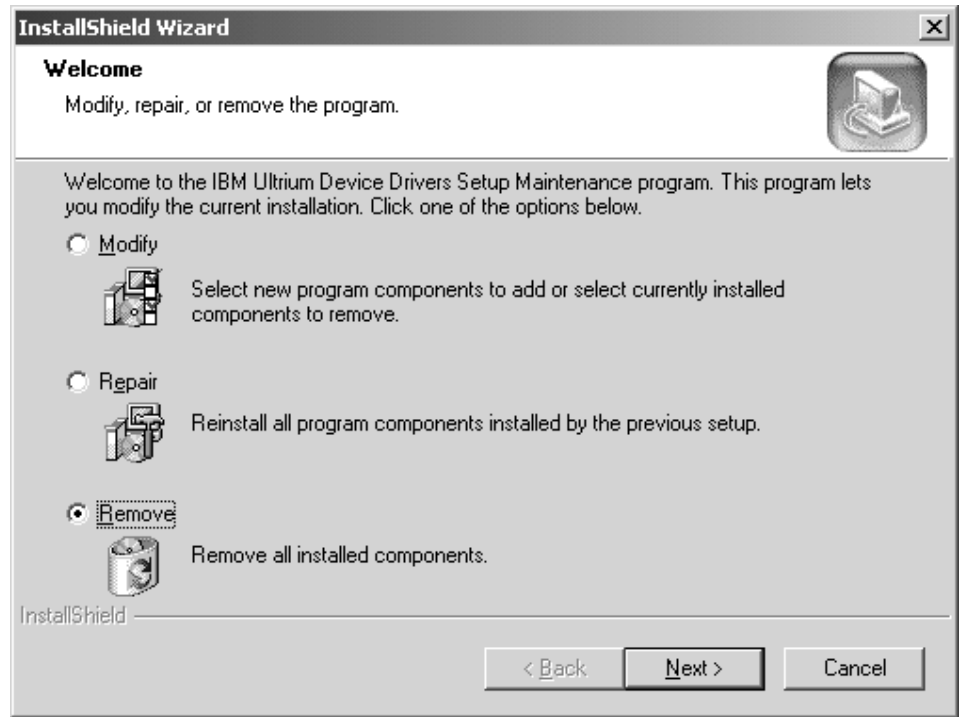

Figure 22. Drive Removal Menu
8. Select the **Remove** option, then follow the *InstallShield Wizard* to uninstall the drivers. See Figure 22.